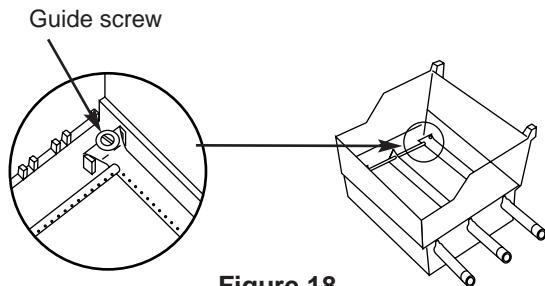

Figure 18
- f) Slide the burner assembly out from under the guide screw and washer in the corners of the cooking box. Figure 18.